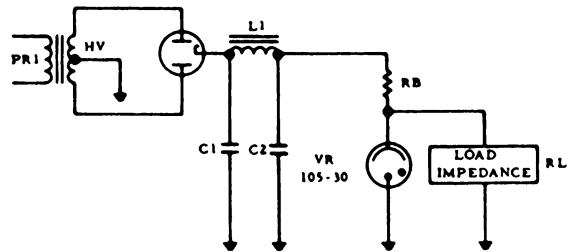

Figure 2-13. Power supply with a gas tube regulator.
When used properly, voltage regulator (VR) tubes absorb all but 5 percent of the voltage changes. Vacuum-tube regulators will absorb all but 1 percent of the voltage variations. Obviously, the vacuum-tube regulator is much more effective than the gas-tube regulator. The type of regulator depends upon the degree of regulation required. Figure 2-13 shows the circuit for a full-wave rectifier with a